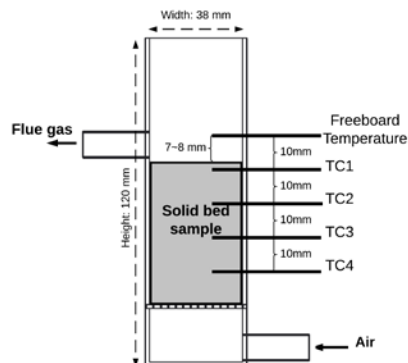

Figure 1: Smouldering combustion reactor schematic diagram
- ▶ Smouldering combustion were initiated in a reactor (Fig. 1) using an heat lamp. The temperatures inside the reactor, flue gases concentration were recorded.